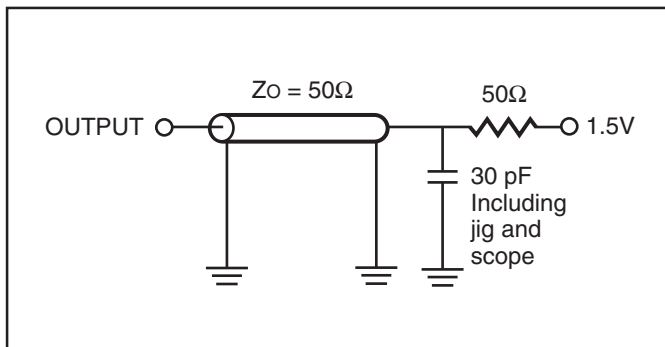

Figure 1.
| Output Load  | See Figures 1 and 2   | See Figures 1 and 2   | See Figures 1 and 2   |
1. Test conditions assume signal transition times of 3ns or less, timing reference levels of 1.5V, input pulse levels of 0V to 3.0V and output loading specified in Figure 1.
1. Test conditions assume signal transition times of 3 ns or less, timing reference levels of 1.5V, input pulse levels of 0V to 3.0V and output loading specified in Figure 1.